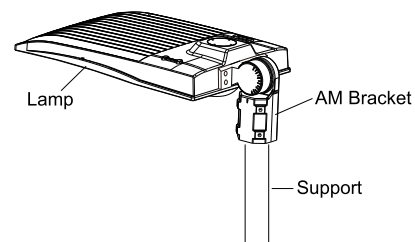

Figure 2
Step 2: Place the bracket into the pole and lock the four bolts. (Figure 2)